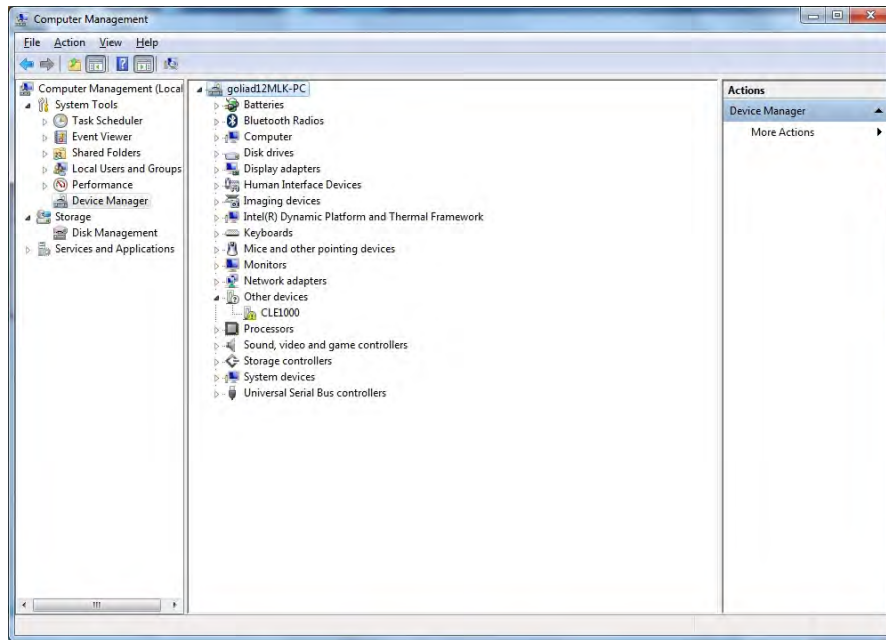

FIGURE 31. DEVICE MANAGER WINDOW
3. Right Click on My Computer > Manage > Device Manager. If no SW for the CLE1000-A2 has been installed, you will see a 'bang' in the device manager. See Figure 31.